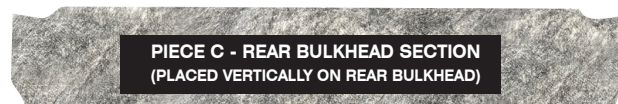

FIG. 1
STEP 1. Remove your seats, floor console and carpet according to the manufacturer's instructions. (Fig 1)
STEP 2. Once the floor pan is exposed, clean all debris, grease, and rust from the area. Now would also be a good time to coat any areas using Boom Mat Prep spray (50491) to seal and convert any rust and corrosion. (Fig 1)